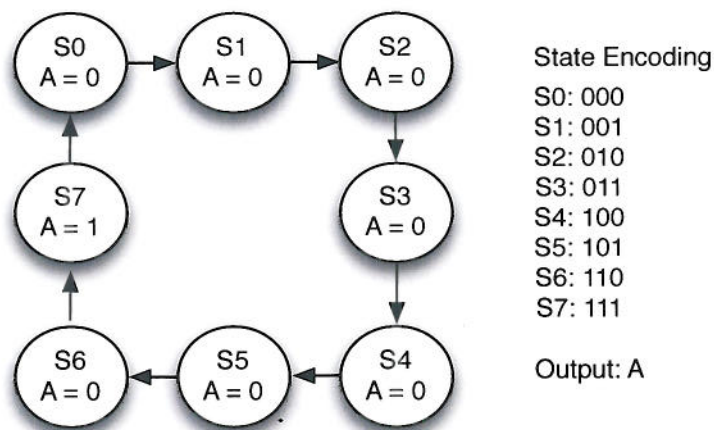

Figure 4.1 State diagram
4. a) Figure 4.1 depicts the state diagram of a 8-state finite state machine (FSM), with an output A. The output signal is set high in state 7, and low in all other states. Using three D flip-flops and logic, design a circuit that implements the FSM.